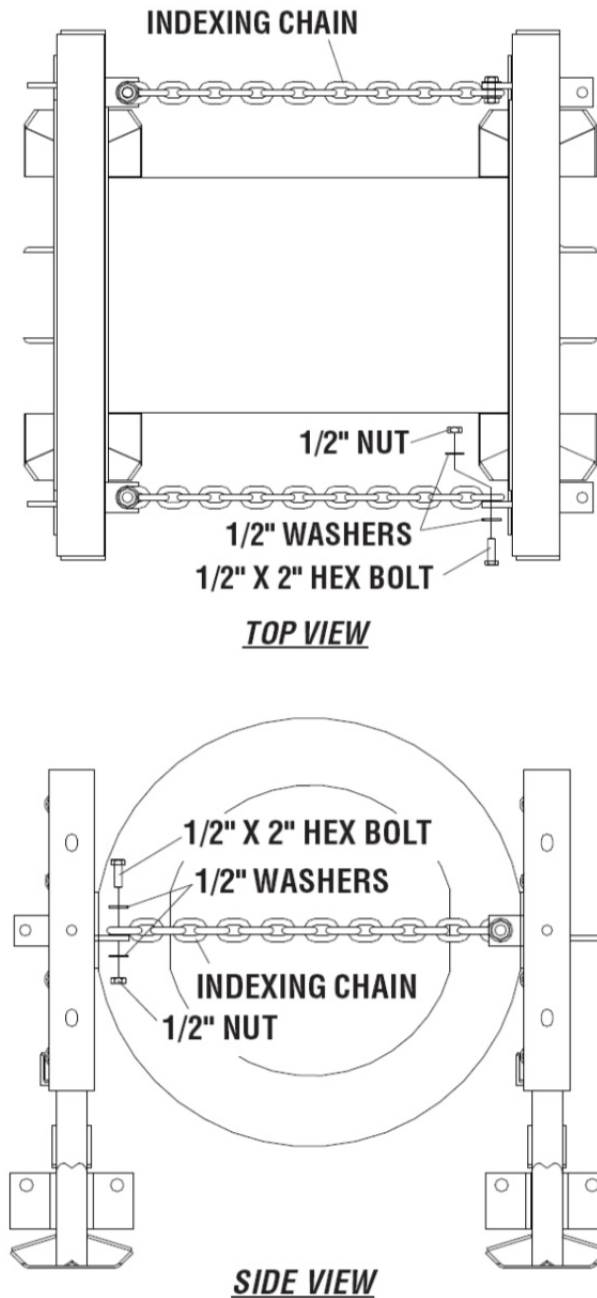

Figure 57
For Bays 3 to the Backup, use (2) Indexing Chains in each Bay. Attach Indexing Chains using 1/2" diameter x 2" long hex head bolts, nuts, and washers as shown in Figure 57.